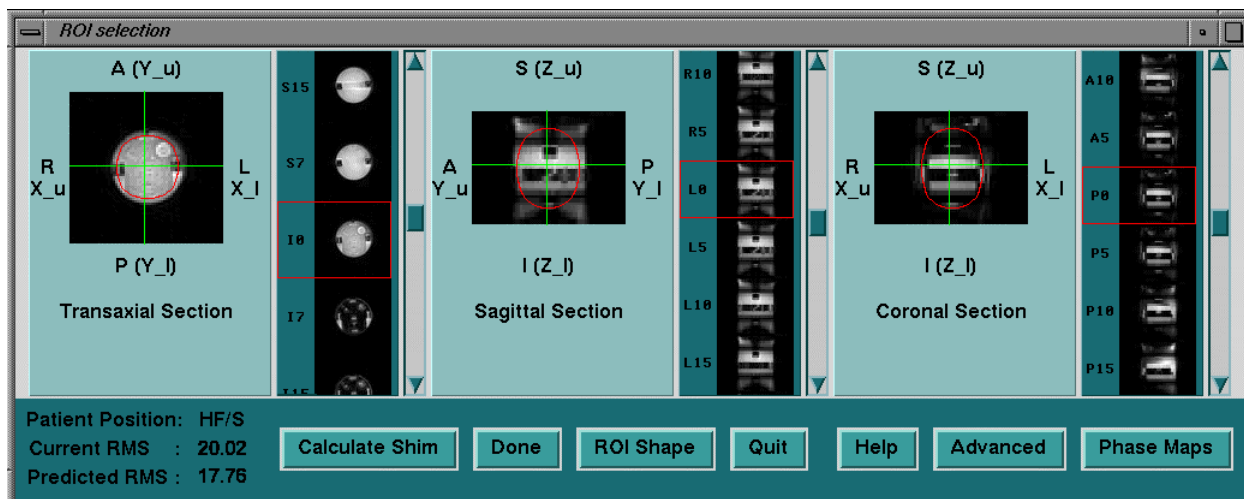

Figure 2: Magnitude Images in the basic screen
After the shim scan and reconstruction finishes, the Shim User Interface will appear as shown in Figure 2 below.
2. Click on **Calculate Shim**. Now the optimum values to improve the magnet homogeneity within the specified ROI volume are calculated. The results are shown as the current and predicted RMS as shown in Figure 2. See “Shim Improvement identification” below for more details including information regarding “What if the shim calculation fails”.
1. To review details of the shim calculation results, save a shim-set of data, recall a previously saved set, manually enter values or remove one or more of the shim channels, click on **Advanced** in the basic screen, as seen in figure 2.